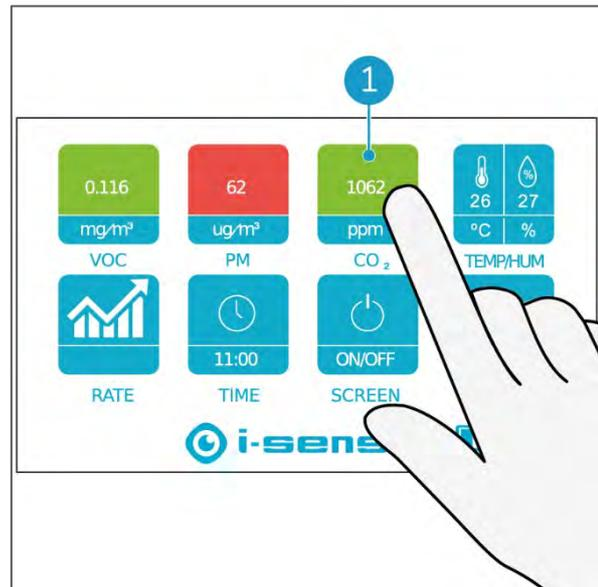

Figure 14
1. Touch the CO₂ button (Figure 14, pos 1) with your finger.